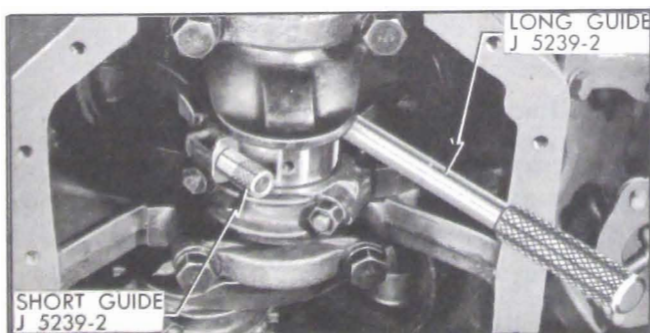

Figure 2-32—Connecting Rod Bolt Guides Installed
The braided fabric seal can be installed in crankcase only when crankshaft is removed; however, the seal can be replaced in cap whenever cap is removed. Remove old seal and place new seal in groove with both ends projecting above parting surface of cap. Force seal into groove by rubbing down with hammer handle or smooth stick until seal projects above the groove not more than 1/16". Cut ends off flush with surface of cap, using sharp knife or razor blade. See Figure 2-32. **CAUTION:** The engine must be operated at slow speed when first started after new braided seal is installed.
4. With No. 1 crankpin straight down, remove the cap with bearing shell from No. 1 connecting rod, then install the short Connecting Rod Bolt Guide J-5239-1 on the lower connecting rod bolt, and install the long Guide J-5239-2 on the opposite bolt, above crankpin. Turn guides down to hold the bearing upper shell in place. See Figure 2-32.
12. Insert piston and rod assembly into its cylinder bore with the long guide pin placed above the crankpin. Push the assembly down until the rod bearing seats on crankpin. See Figure 2-32.